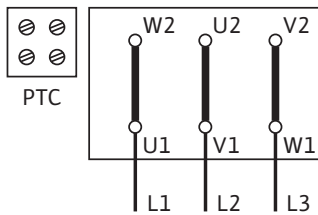

Fig. 45: Y-Δ-start (standard)
The connection diagram for the electrical connection is in the terminal box (also see Fig. 45/46).
- The mains connection to the terminal board is dependent on the motor power P_2 , the mains voltage and the activation type. The recommended switching arrangement of the connection bridges in the terminal box should be taken from the following list "Table 4: Connection terminal assignment" on page 46 and Fig. 45/46.
Y-Δ start (default)	Remove connection bridges (Fig. 45)